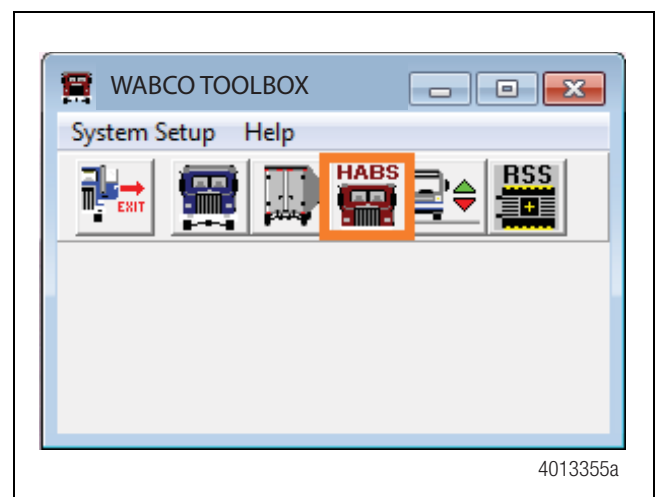

Figure 3.7
4. Select **HABS** on the next window. Figure 3.7.